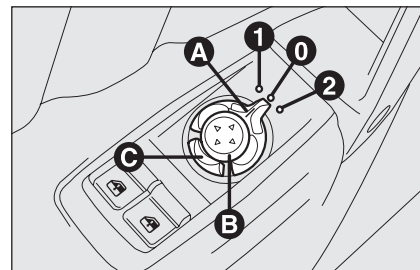

fig. 34
Use device **A**-fig. 34 to select the required mirror:
When required (for example when the mirror causes difficulty in narrow spaces) it is possible to fold the mirrors by pressing button **C**-fig. 34.
To bring the mirrors back to driving position press again button **C**-fig. 34.
- ☐ turn selector **A-fig. 34** to **2** (to select the passenger door mirror);
Proceed as follows: fit the electronic key into the ignition device; engage reverse; turn selector **A-fig. 34** to **2** (to select the passenger door mirror).
The mirror will automatically return to its original position 10 seconds after disengaging reverse, when the car speed exceeds 10 km/h in forward gear or when turning selector **A-fig. 34** to **0**.